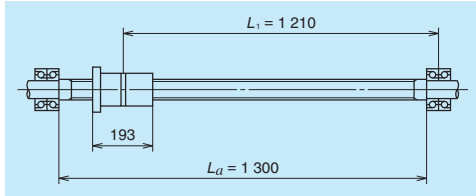

Fig. 16.4 Examination of buckling load
(1) Permissible axial load
Calculate the buckling load for conditions shown in Fig. 16.4 with P of 10 354 (N) and L₁ of 1 210 (mm).